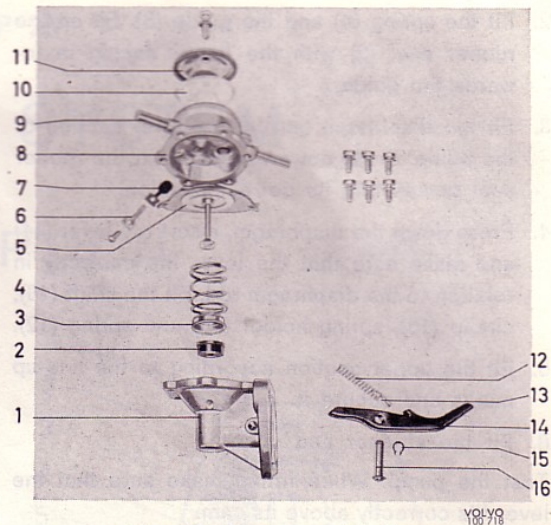

Fig. 121 Fuel pump, Pierburg
- Remove a circlip (15, Fig. 121) from the lever shaft (16). Press out the shaft. Pull out the lever (14) and the spring (12).
- Remove the diaphragm with spring (4), the guide (3) and the rubber seal (2). The spring can be removed after the rubber seal has been levered over the nylon washer.